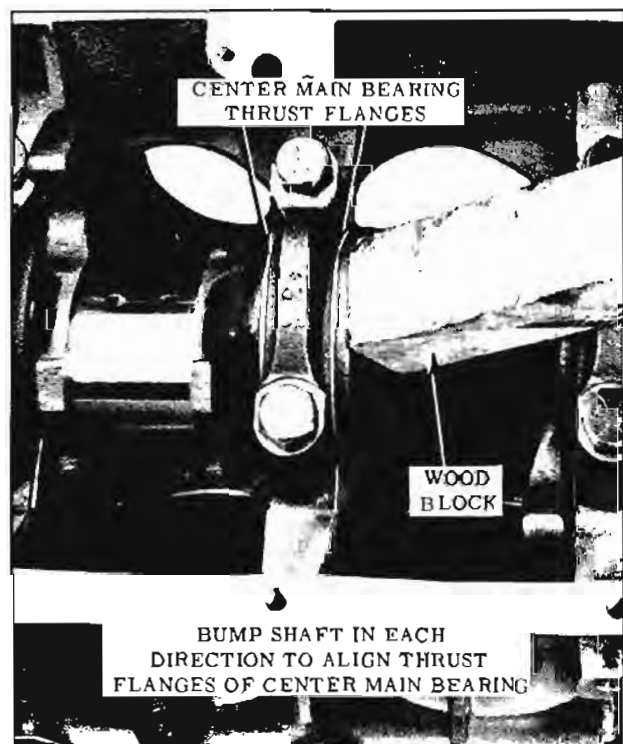

Fig. 8-148 Aligning Center Main Bearing Flanges
4. With a block of wood (Fig. 8-148) bump shaft in each direction to align thrust flanges of center main bearing.